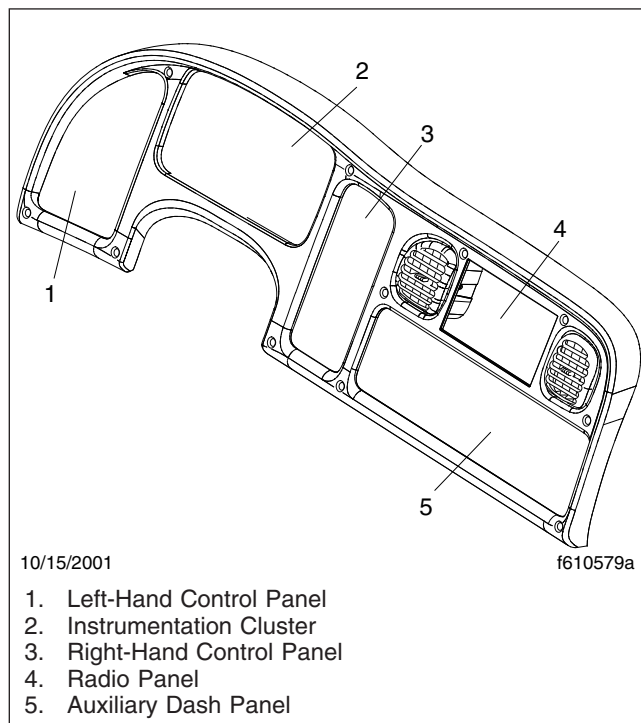

Fig. 5.3, Control Panels
The left-hand control panel (**Fig. 5.3**, Item 1) contains a face vent and four switches arranged in a vertical line. In the standard cab, the four switches usually consist of the headlight, panel light increase/decrease, and the cruise control on/off and set/resume switches.
The right-hand control panel (**Fig. 5.3**, Item 3) usually contains the transmission push-button shift selector (vehicles with an automatic transmission) and the
The auxiliary dash panel (Fig. 5.3, Item 5), located below the radio panel, contains the parking brake control and trailer air supply valves, the cigarette lighter (push the knob in to heat the element; the knob will pop out when the element is hot), and a variety of switch options. The auxiliary panel may also contain an antenna connection and positive (+) and negative (–) power connections for a citizen's band (CB) radio.